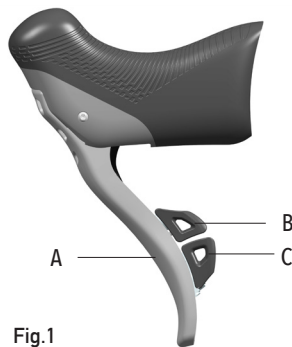

Fig.1
- A - Brake lever (Fig.1)
- B- Upper lever (Fig.1)
- C- Lower lever (Fig.1)
- Moving the lever A (Fig. 1) operates the brake: check which wheel corresponds to which lever by operating each of these one at a time.